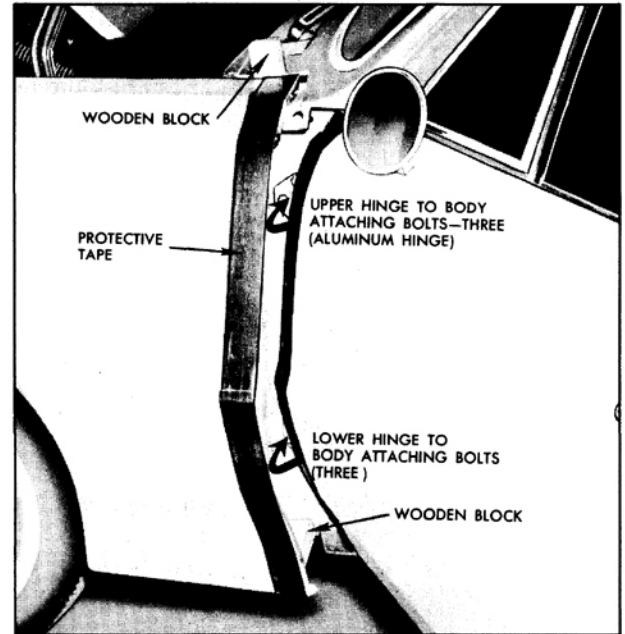

Fig. 16-332 Front Door Hinge Attachment
3. With the aid of a helper, to properly support door, remove bolts securing upper and lower hinges to body and remove door assembly (with hinges attached) from body. (Fig. 16-332)